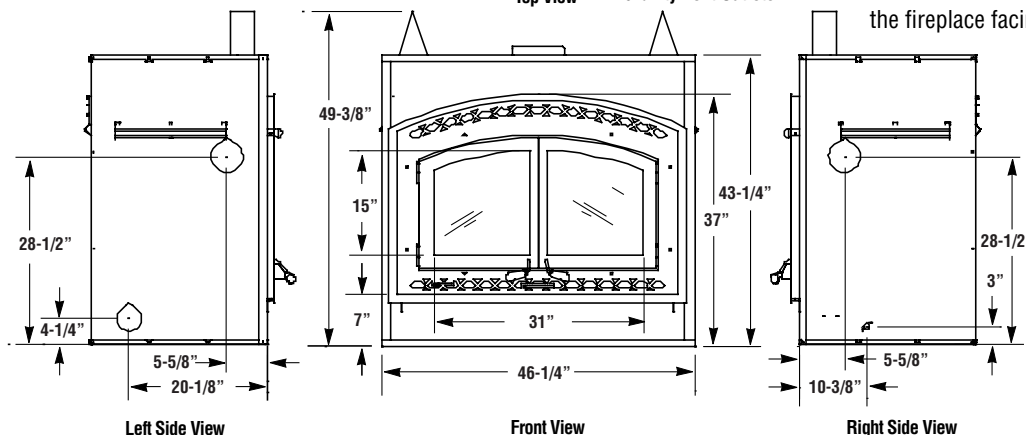

Figure 10
The construction of the framing, facing, and mantel must be in accordance with the standards and the following illustrations (**Figures 10 and 11**):
- C. Frame the fireplace with vertical studs at the sides of the fireplace running from floor to ceiling (see **Figure 10**). If combustible facing is to be used, position the studs back, from the front edge of the fireplace (a space that is the thickness of the facing material, so that the facing can be installed flush with the fireplace facing). Frame headers between the vertical studs only as follows: